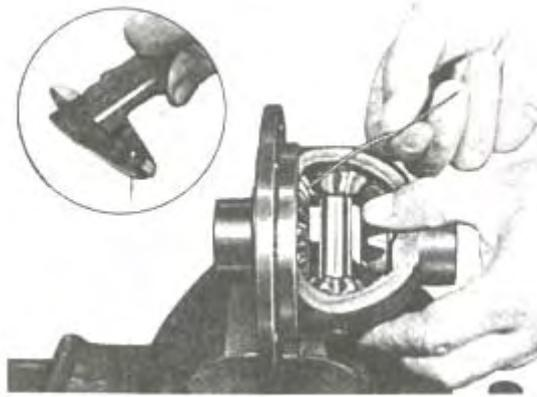

FIG.13-19
(5) After installing spider gear shaft (notice: align pin hole of spider gear shaft with that of differential case), turn half-axle gear or spider gear several circles. Check to ensure that they rotates smoothly without stick or not repeat step (3), (4) , (5) .
(6) Put fuse or lead wire or other soft metal wire on mesh position of half-axle gear and spider gear. Turn half-axle gear or spider gear to stave it(FIG.13-19). The staved thickness should be between 0.10~0.20mm. (the thickness is tooth side clearance of half-axle gear and spider gear) If it exceeds limit, remove and rechoose half-axle gear adjusting washer with proper thickness. Repeat steps (3) ~ (6) until reach standard value.